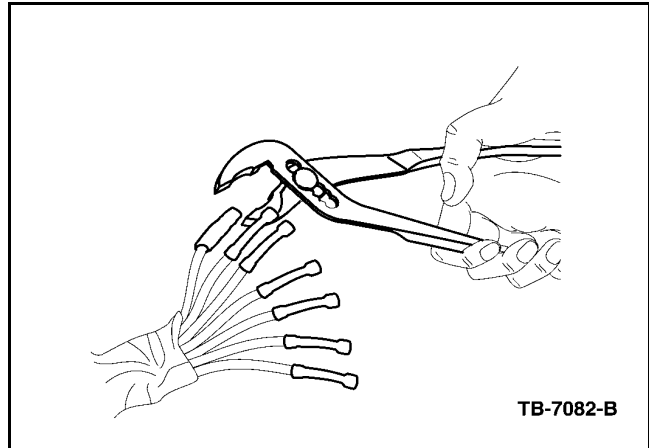

Figure 4 - Article 06-17-8
3. Use a shielded, flameless heat gun to heat the repair area until the tubing shrinks and adhesive flows out of both ends of the shrink tubing. While the adhesive is still hot, use pliers to pinch the ends of the heat shrink tubing closed to form a moisture proof seal (Figure 4).